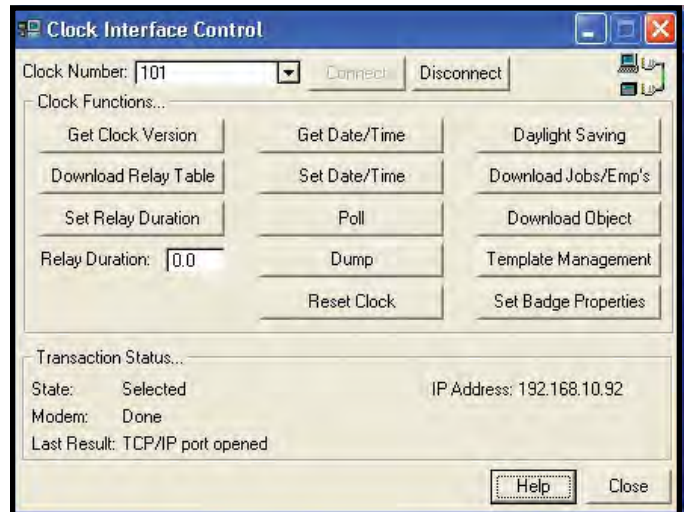

Figure 22. Out-of-the-Box™, Clock Interface window
11. Select the clock number that corresponds to your Ethernet connection and click the “Connect” button. If a successful connection to the Smart Clock is established, the buttons in the window should become active (see Figure 22). If the buttons do not become active, review over steps I - XI or contact Technical Support.